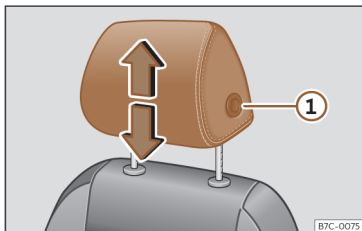
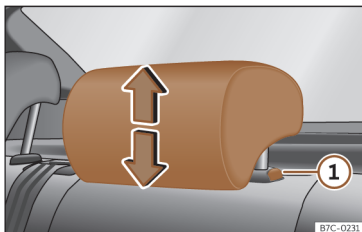

Fig. 98 Front seat: headrest adjustment.
Fig. 99 Rear headrest: headrest adjustment.
- Grab the sides of the headrests with both hands and push upwards to the desired position. To lower it, repeat the same action, pressing the ①»» Fig. 98 »» Fig. 99 button on the side.